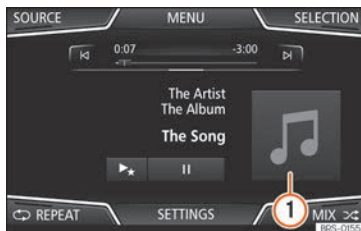
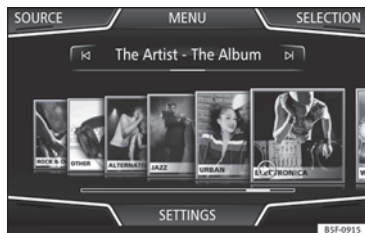
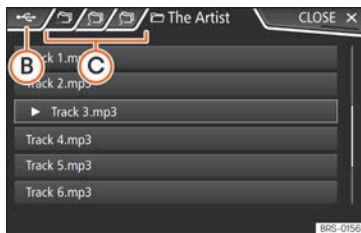

Fig. 171 MEDIA main menu.
Fig. 172 Selection by cover.
Fig. 174 Media Mode: list of tracks of a Media source.
Clicking on the current cover » **Fig. 171** ① will display all of the album covers available in the active Media source » **Fig. 172**.
• Press the **(SELECT)** function button on the **MEDIA** main menu » **Fig. 171** to open the track list. The track that is playing is highlighted » **Fig. 174**.